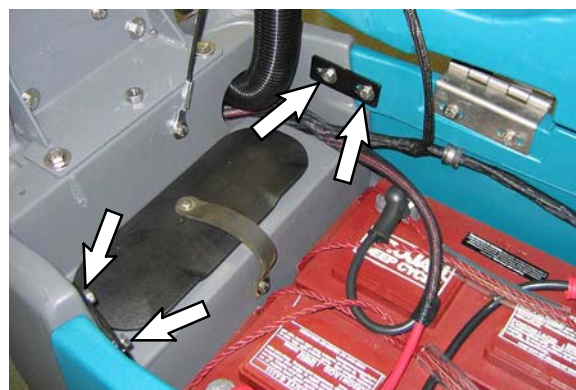

Fig. 3
- c.) Loosen the four screws that mount the rear of the shroud to the solution tank (Figure 3). DO NOT REMOVE SCREWS.